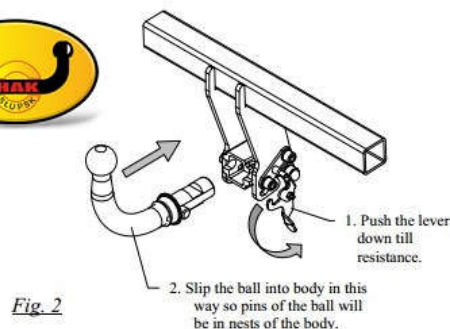

Fig. 2
1. To install the ball in mechanism push the lever down till resistance as show figure 2.